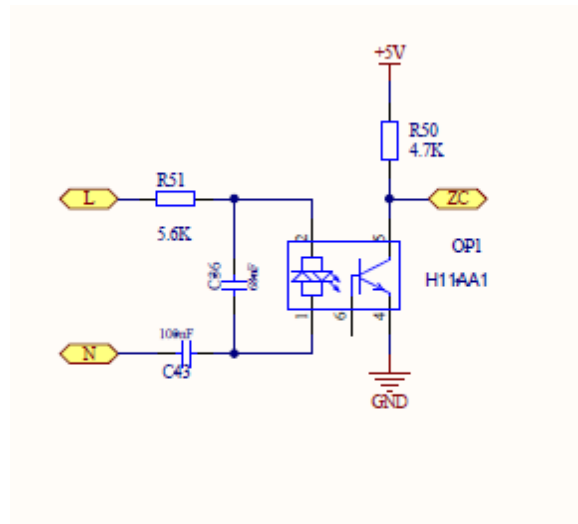

Figure 4.1
1. Zero-cross detection for grid synchronization. (Figure 4.1)